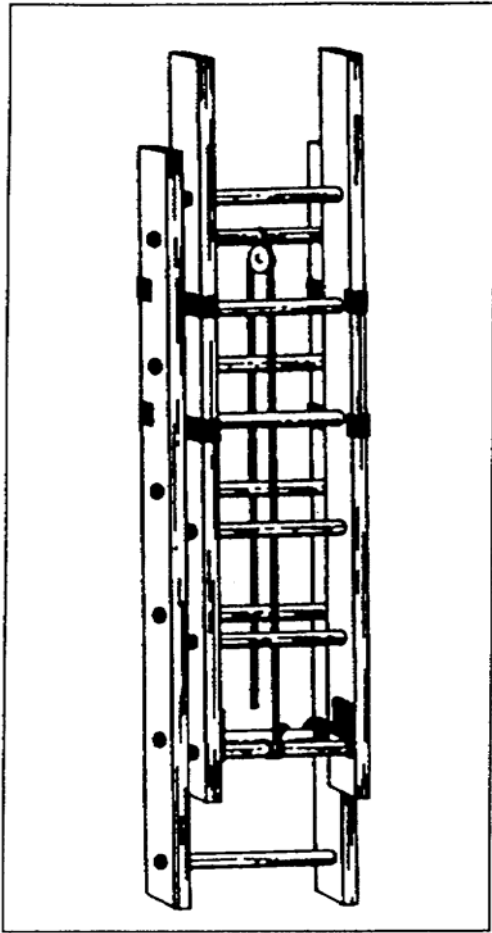

Figure 4-10. Extension ladder
b. **Extension Ladder.** An extension ladder (Figure 4-10) consists of two or more sections that are adjustable to various lengths. The ladder sections are adjusted by pulling on a rope that is reeved (threaded) through a pulley. The pulley is mounted on the ladder's stationary section, and a rope is attached to the ladder's extension section. The extension ladder overlaps to hold the sections together. The sections will overlap at least 3 feet for ladders up to 38 feet long, 4 feet for ladders up to 45 feet long, and 5 feet for any extension ladders over 45 feet long. Lock the rungs of one ladder section to another section with a secure locking device. Ensure that the ladder sections are in the down position, then erect the extension ladder in the same manner as a straight ladder. After the ladder is erected, lean the top away from the building and raise it to the desired height with the pulley and rope arrangement. Ensure that the ladder sections are locked in place before ascending the ladder.